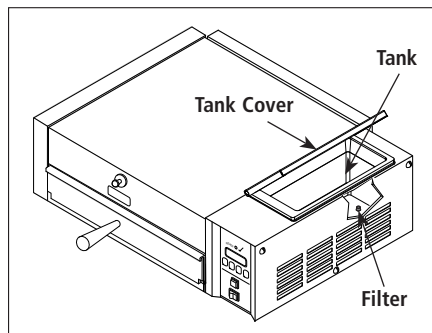

Figure 4. Filling Water Tank
1. Open the Tank Cover on top of the unit (Figure 4).